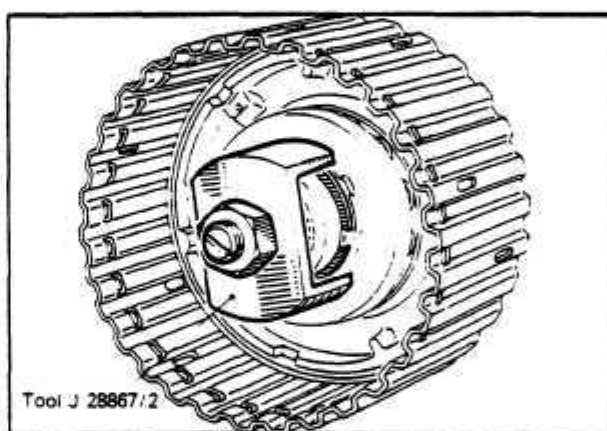

Fig. 56 C-1 PISTON REMOVAL
4. Compress the piston return springs using the special tool J 28867/2 (part of the A/T Tool Kit) and remove the lock ring securing the spring retaining plate, Fig. 56
5. Compress the retaining plate using the special tool and install the lock ring. Make sure that the three (3) lugs on the retaining plate are holding the lock ring in position when the tool is removed. *Fig. 56*